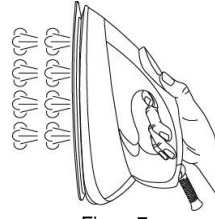

Figure7
2. Hold the iron in vertical position (Figure 7) 15 to 30 centimeters away from the garment.